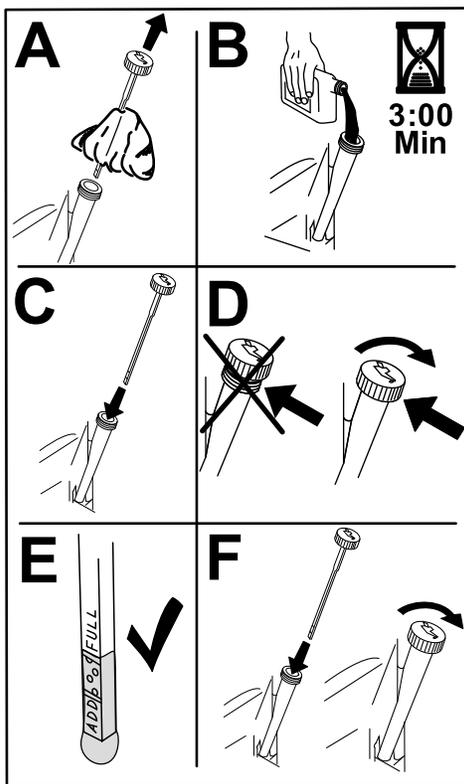

Figure 36
- Slowly pour approximately 80% of the specified oil into the filler tube and slowly add the additional oil to bring it to the **Full** mark (Figure 36).
3. Fill the crankcase with the proper type of new oil (Figure 36).